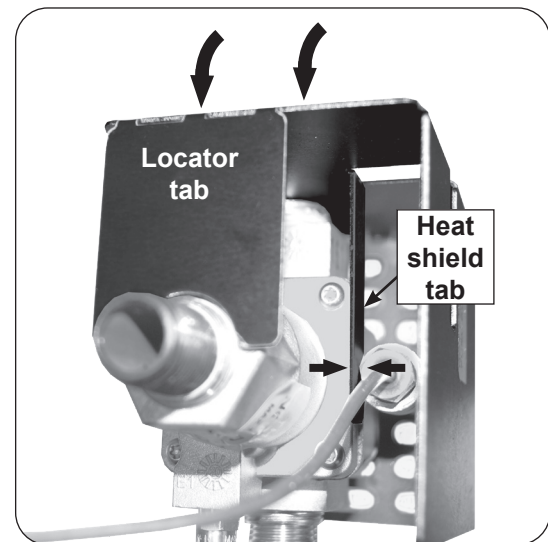

Fig. 6-2 Tab placement
2. Place the assembled heat shield over the safety control valve. Insert the valve stem through the hole of the heat shield face so the locator tabs rest on the valve system sleeve at the front of the valve and on the nipple in the rear of the valve. The heat shield tab will insert between the valve body and pilot supply line, keeping the heat shield in place. See Fig. 6-2